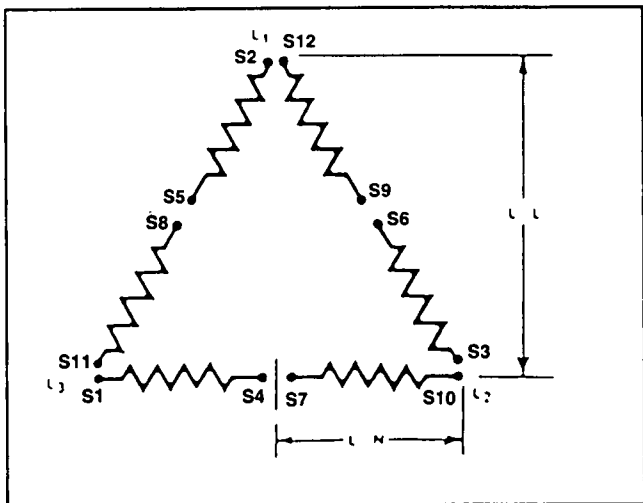

Figure 5. High Delta Connection System
This type of stator has six (6) windings and twelve (12) leads coming out. See Figure 5. The stator can be used to supply the voltages indicated in the following CHART.